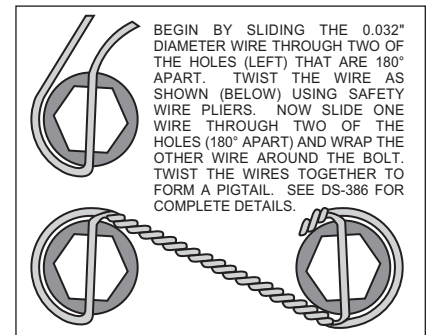

Figure 6. Safety Wire Diagram
- Slide the bracket kit assembly (1) onto the housing flange and then insert the axle assembly through the center hole of the bracket kit assembly (1). Align the bearing retainer (2) with the four holes inside the bracket assembly (1) and secure using the stock Original Equipment Manufacturer (OEM) bolts and nuts. Stock OEM hex nuts that retain the bracket kit assembly (1) and retainer (2) should be on the wheel side of the bracket. Apply red *Loctite*® 271 to the stock OEM bolt threads and torque to OEM specifications. Make sure the bracket kit assembly (1) brake pads are FACING OUTWARD TOWARDS THE WHEEL.
- With the larger I.D. side of the rotor (4) facing away from the hat (3), bolt rotor (4) to hat (3) through the backside of the rotor using washers (5) and bolts (6). Torque bolts (6) in an alternating sequence to 103 **in-lb**. Safety wire bolts (6) using standard 0.032 inch diameter stainless steel safety wire as shown in Figure 6. Please refer to Wilwood's data sheet DS-386 (available at www.wilwood.org/ds386.pdf) for complete safety wire installation instructions.
- Align the correct hole pattern in the hat (3) with the stud pattern on the axle flange. **NOTE:** Some OEM and aftermarket axles come with stud sizes larger than 0.50" diameter. Verify stud size and have a qualified machine shop drill the hats to the correct size, if necessary. Slide the hat/rotor assembly (3 and 4) over the wheel studs covering the bracket kit assembly (1) and against the axle flange face. Check to be sure the hat seats squarely against the hub. Install a couple of lug nuts (finger tighten) to keep the rotor/hat assembly in place while continuing with the installation.